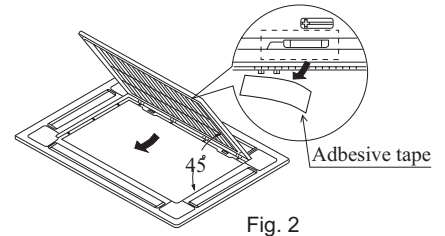

Fig. 2
- ② Lift it up for about 45 degree and remove it from ornament. Tear off adhesive tape fixing air filter on the back of the air inlet grill. (Refer to Fig. 2)